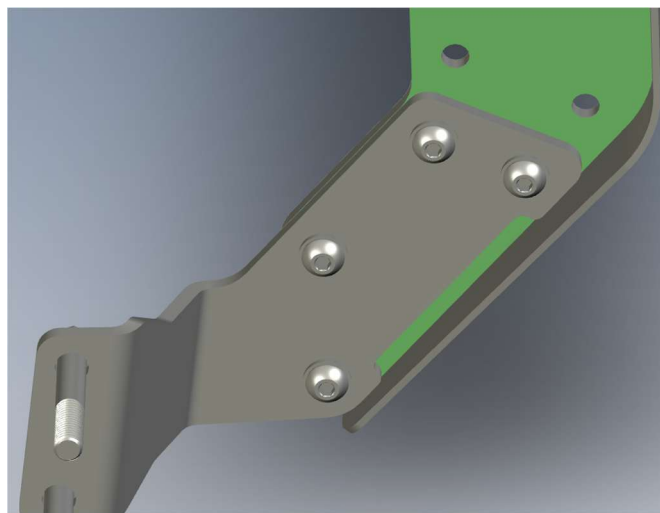

Figure 20
4. Loosely install AEV Lower Weldment utilizing M10 button head screw (6mm hex), M10 washer, and M10 nut provided. - Fig. 20